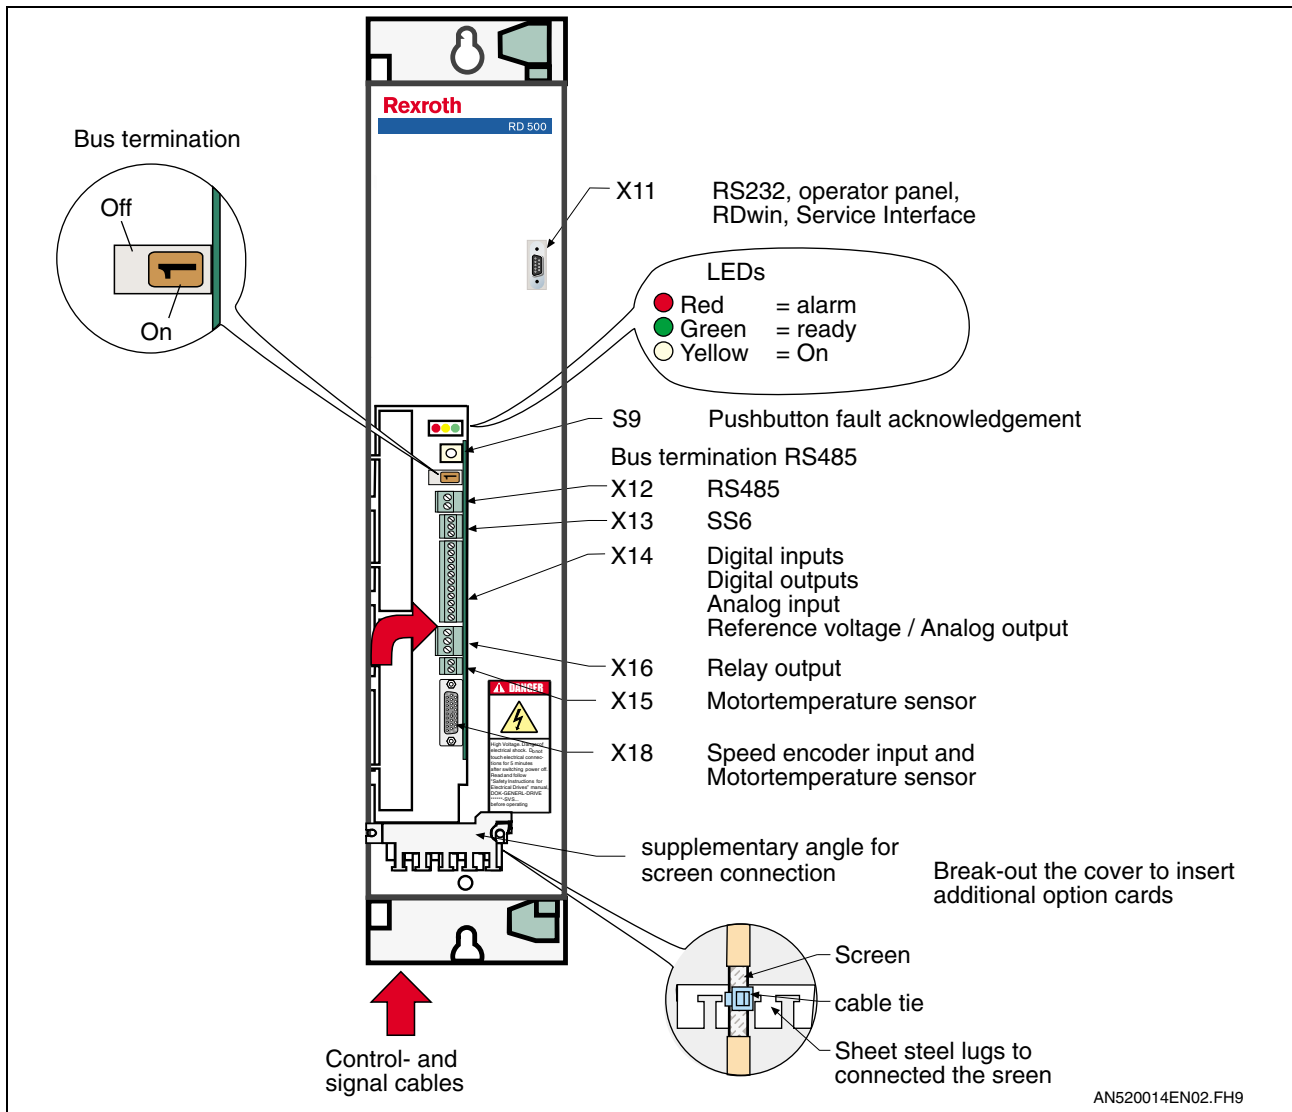
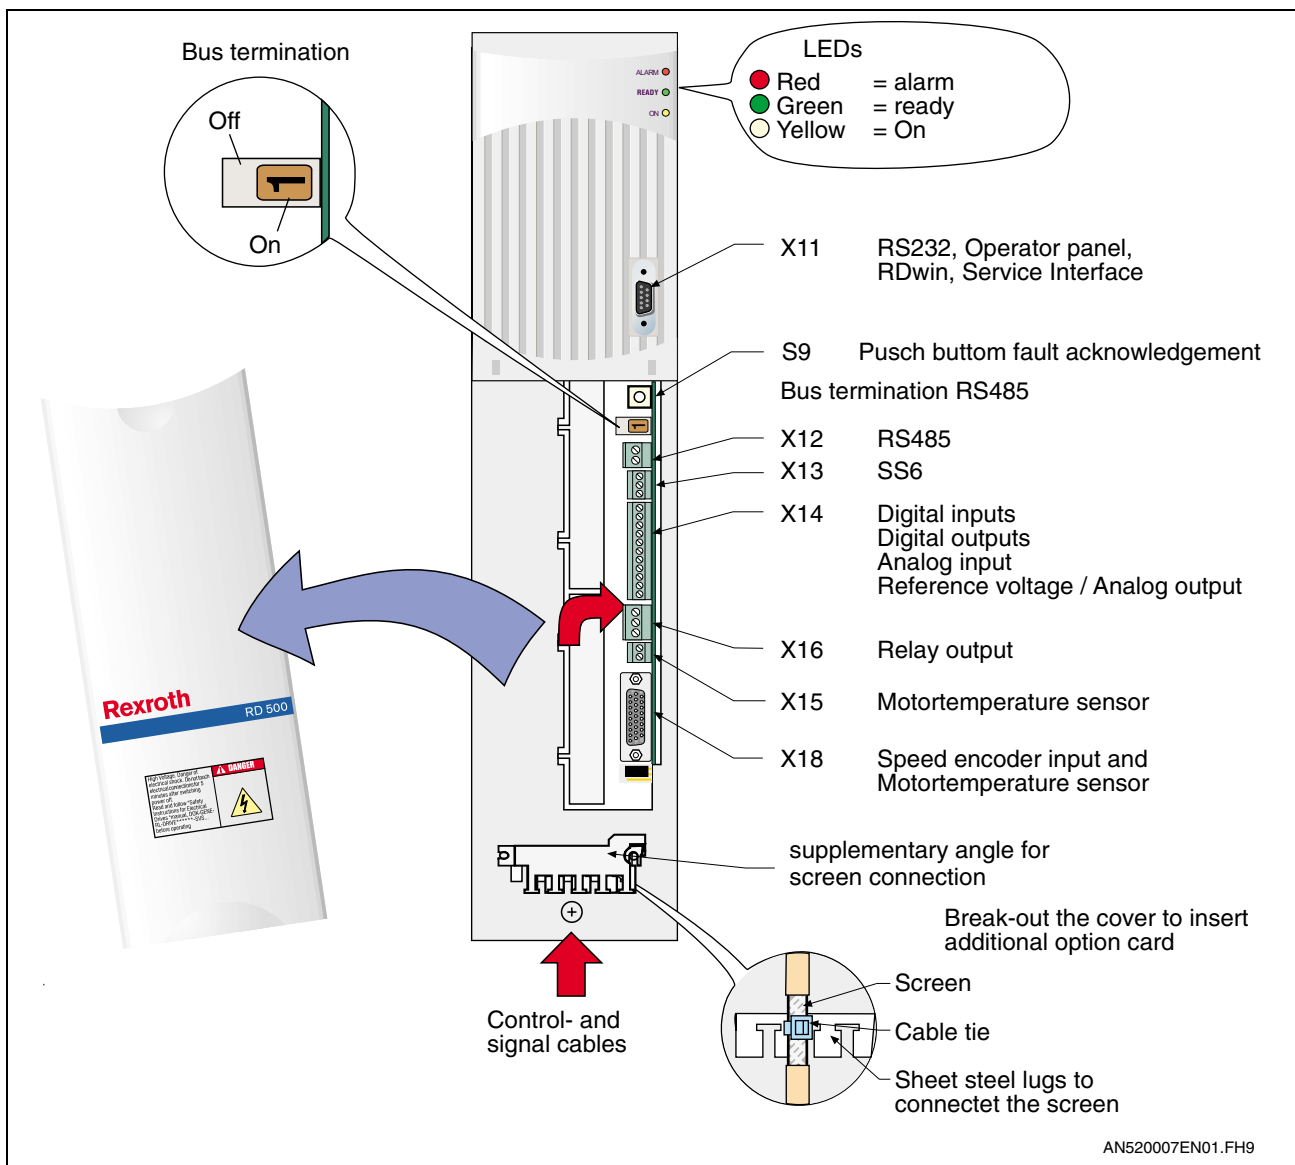

Fig.:4-9 Control terminals on the SR17002 logic and control board
Fig.:4-10 Control terminals on the SR17002 logic and control board
- The motor temperature sensor conductors can either be routed in the encoder cable or using a separate cable to connector X15 of the logic control card (refer to Fig.:4-9; Fig.:4-10, SR17002 terminal diagram).